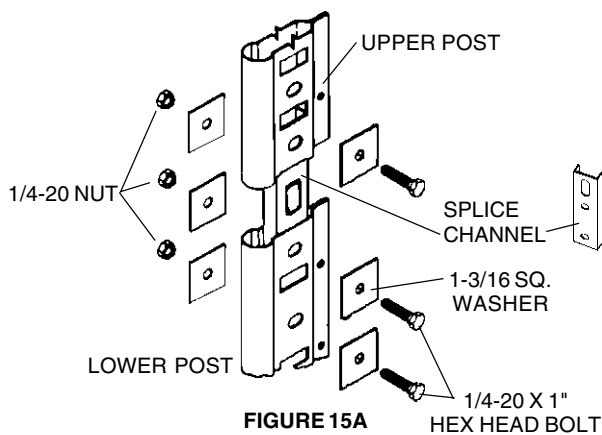
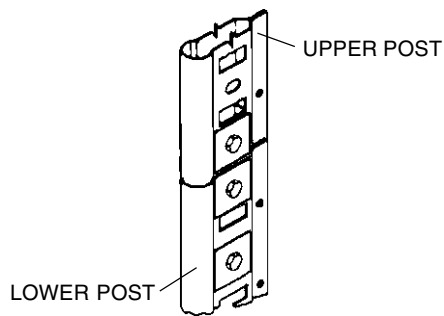

FIGURE 15A
FIGURE 15B
1. Insert channel in lower front beaded post, (or rear tee or angle) and bolt with 1/4-20 bolts & nuts, through oval slots in end of post. Figure 15A. The oval hole in the Splice Channel is always on top. The two round holes in the splice are always in the lower post.
2. Place upper post over extended splice channel and bolt through oval slots as in step 1. above. Figure 15A. Once completed the post should look like Figure 15B.